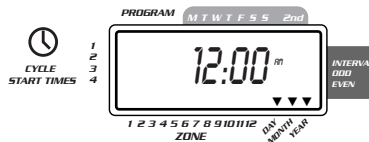

FIGURE 3: LCD Display with Surrounding Information
- Turn the rotary dial to the **TIME/DATE** position [See Figure 3].